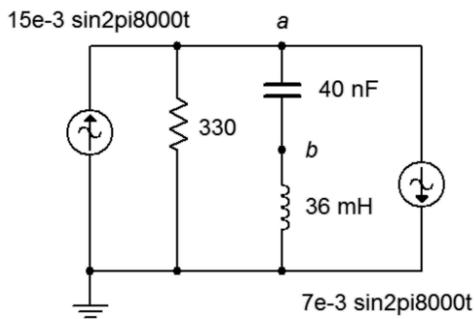

Figure 6.14
27. Use nodal analysis to find the current through the 330  $\Omega$  resistor in the circuit of Figure 6.14.
28. Given the circuit in Figure 6.14, write the node equations and determine  $v_b$ .